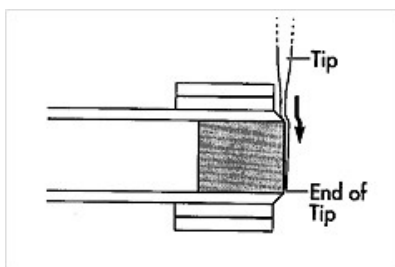

Figure 6: Insert capillary tip.
18. Pre-set a pipettor to 50-60µl, and insert the provided capillary pipette tip through the hole in the membrane and gently push the tip downward (Figure 6). The capillary tip slides over the cutting edge (slope) of the punch. The tip pushes the wet membrane forward as it moves downward into the collection port.